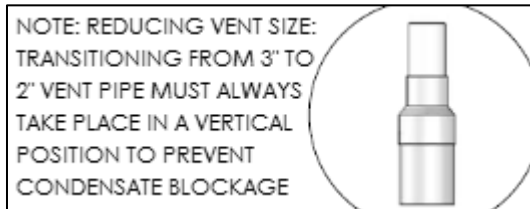

Figure 8 – Transitioning from 3" to 2" Vent Pipe
5. For 2" installations, install a reducing coupling in a vertical section of pipe. See Figure 8.